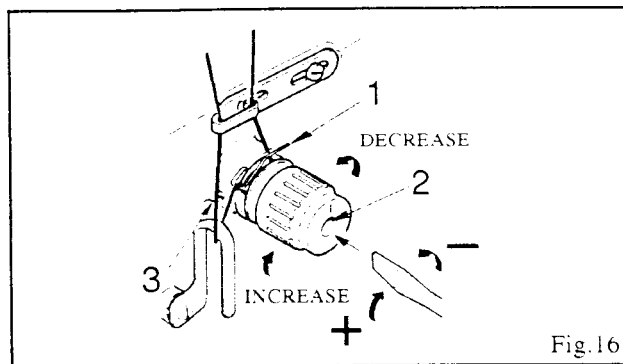

Fig.16
The tension and the range of movement of the take-up spring (1) may require different settings depending upon the size of thread and material used. Heavier thread or material require more tension; delicate materials require less tension. Also the movement of take-up spring should be increased to ensure correct thread control. Using a large screw driver in slot of tension stud (2), turn stud either over toward left to decrease tension, or over to right to increase tension as shown in Fig. 16. To set the take-up spring height, loosen screw (3), Fig. 16, and turn entire tension assembly either over toward left to lower take-up spring and decrease its movement, or over toward right to raise take-up spring and increase its movement. Firmly tighten screw (3).